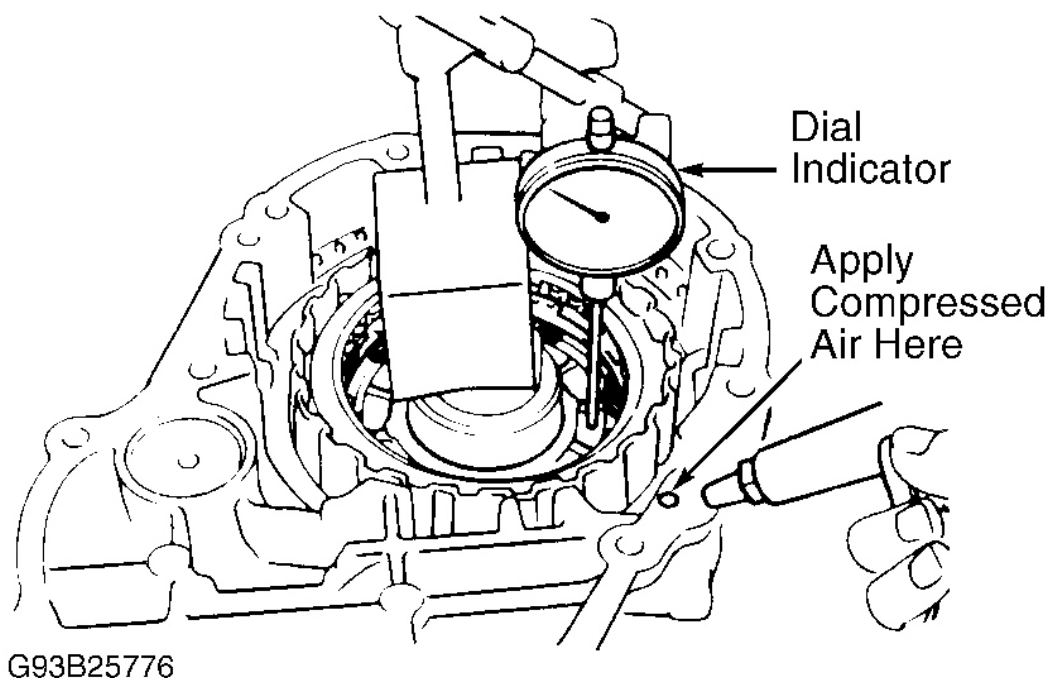

Fig. 52: Checking OD Direct Clutch Piston Stroke
2. Install drum in case. Apply compressed air to pressure apply hole. Remove OD direct clutch drum from case. See **Fig. 52** . If piston does not completely come out, use needle-nose pliers to remove piston. Remove "O" rings from piston.
4. Measure piston stroke by applying and releasing 57-114 psi (4-8 kg/cm²) of compressed air. Piston stroke should be .069-.098" (1.75-2.49 mm). See **Fig. 52** . Ensure piston moves freely. If piston does not move, disassemble and inspect.